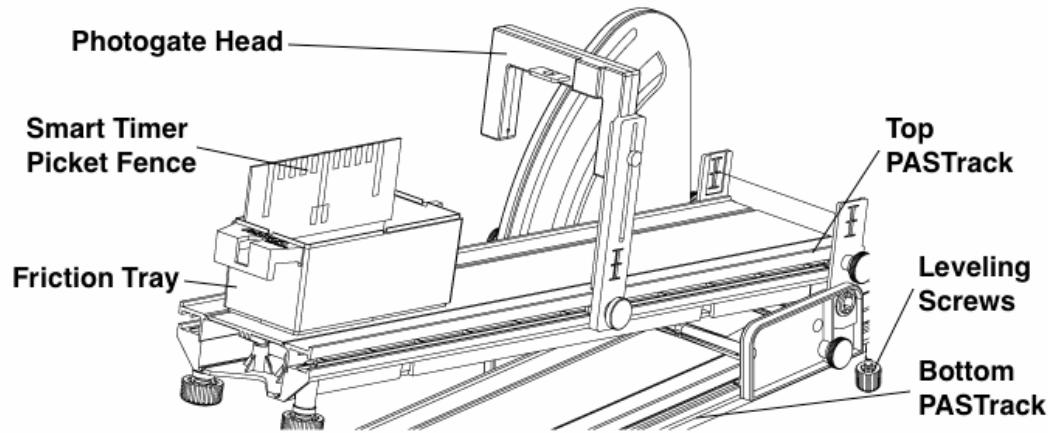

Figure 5: Inclined Plane Apparatus. Angle should be read from top of PASttrack (see physical apparatus).
1. Set up the PASttrack and Inclined Plane Accessory as shown in Figure 5 with a Photogate Head and Photogate Bracket. Elevate the PASttrack to a shallow angle (a few degrees).